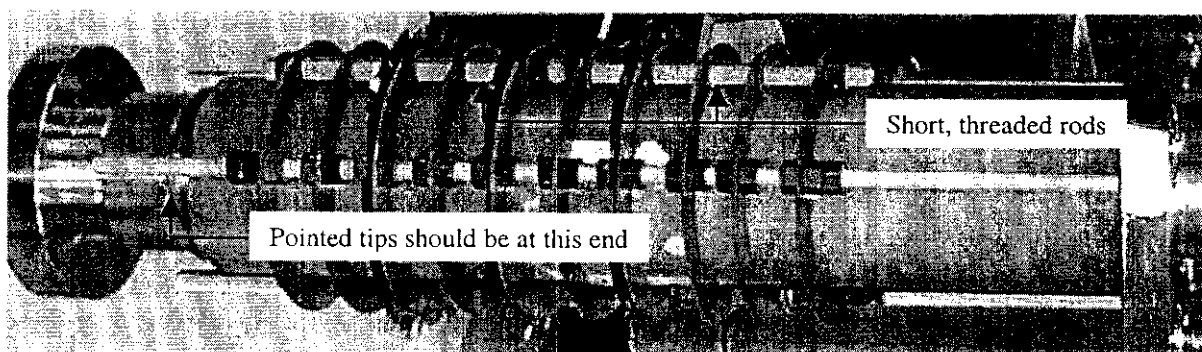

Figure 1.11 A baffle installed on a power lead.
- 1.11 Install the baffle on the lead with the pointed tips of the threaded rods pointing toward the bottom of the lead. An installed baffle is shown in Figure 1.11.